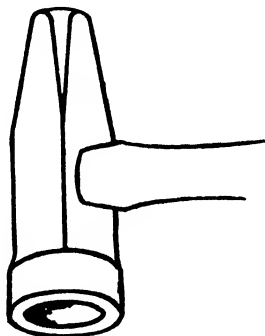

FIG. 26
10. Finish the top of the head by placing a buttonhead set, Fig. 26, on the top and hammering until the arch is formed on all sides from corner to corner. Hammer the edges until they are again parallel to the shank.